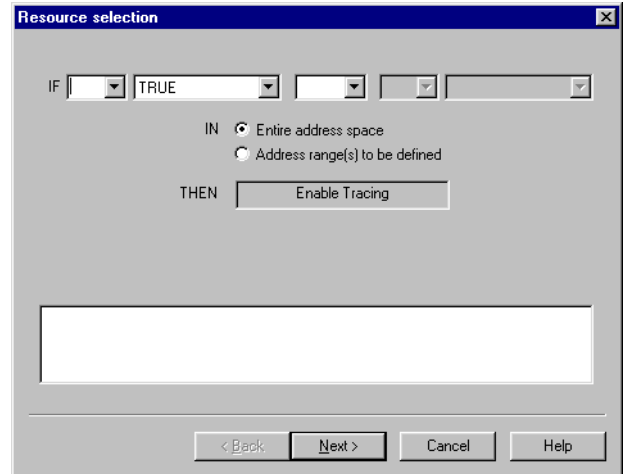

Figure 8-48 Resource selection for Enable Tracing
2. Double-click **Enable Tracing** in the Actions list to define a rule. The Enable Tracing Resource selection dialog box shown in Figure 8-48 is displayed.